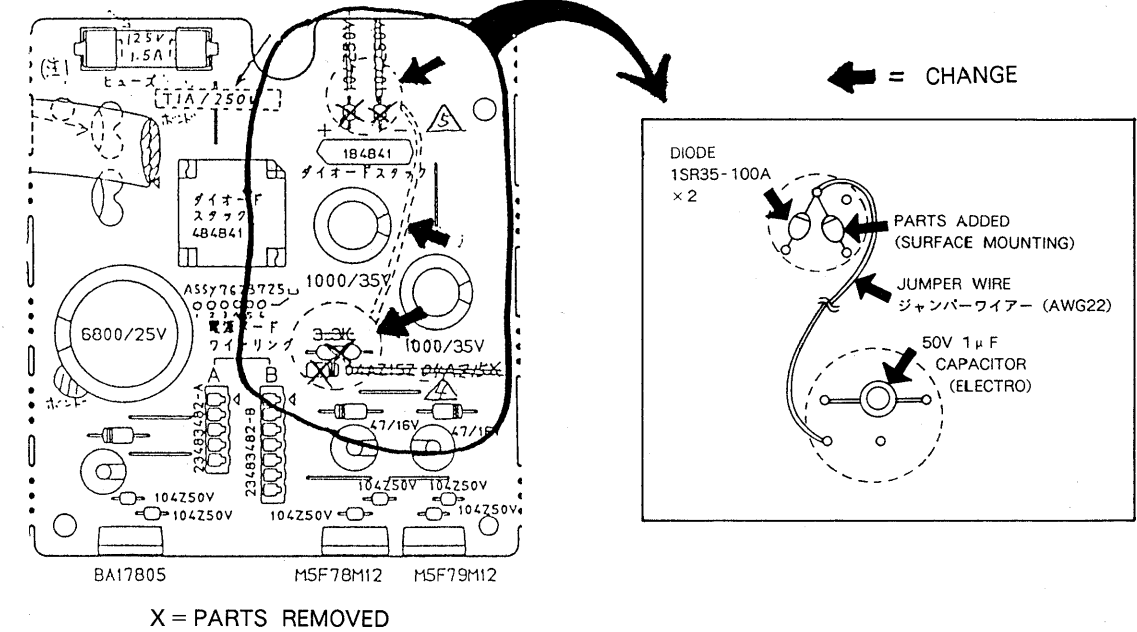
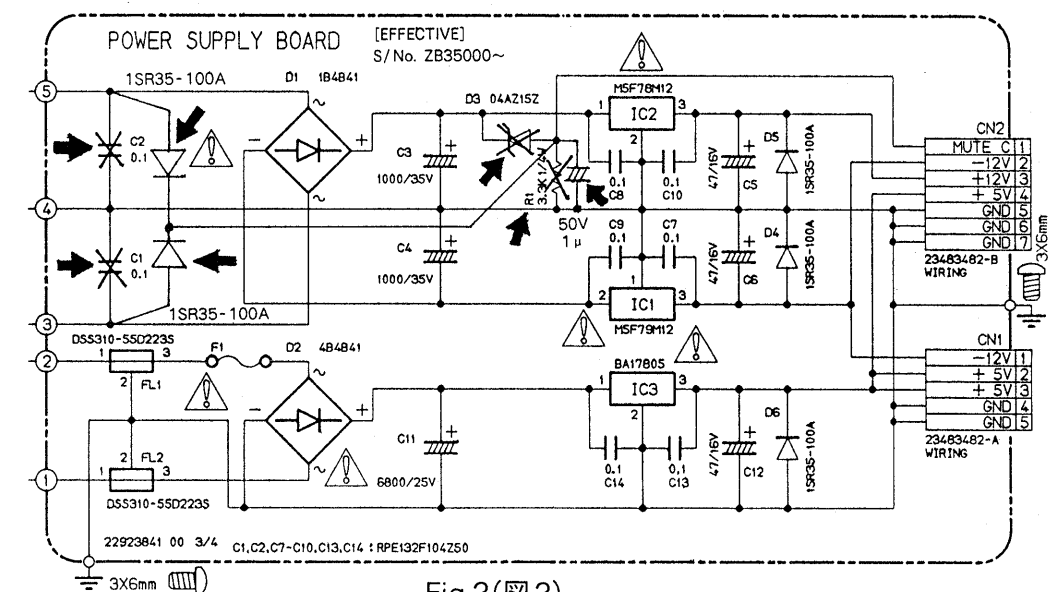

Fig.1 (図1)
Fig.2 (図2)
Muting circuit on power supply board has been as shown in Fig.1 and Fig.2. (POWER SUPPLY BOARD - PCB No.2292384100 2/4)
電源基板 (POWER SUPPLY BOARD : pcb No.2292384100 2/4) の回路変更を行う。(図1 & 2参照)
1.PARTS REMOVED (See Fig.1 and Fig.2)
2.PARTS ADDED (See Fig.1 and Fig.2)